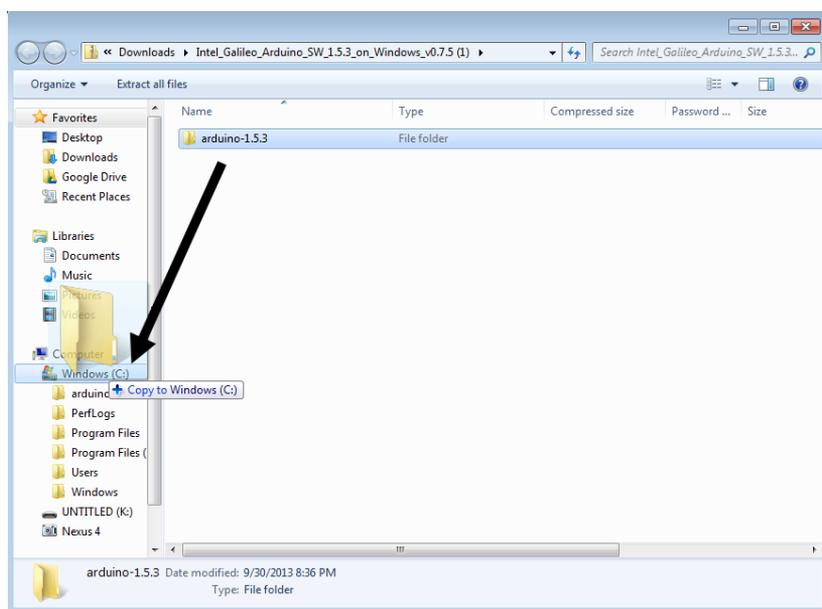

Figure E-1. Drag the *arduino-1.5.3* folder from the ZIP file to the C: drive.
4. Drag the entire *arduino-1.5.3* folder onto your C: drive. (Figure E-1)